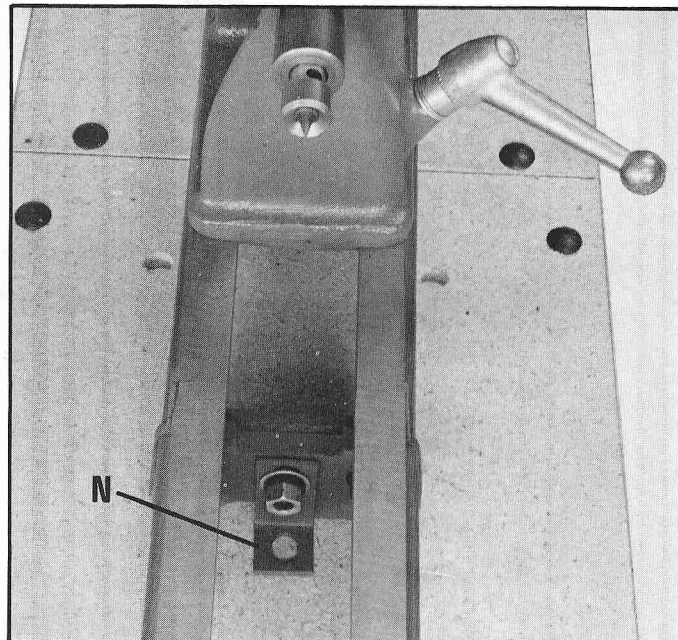

Fig. 33
8. The tailstock end of the lathe should be assembled to the accessory bed section in a similar manner. Support bracket (N) should also be assembled to the center bolt as shown in Fig. 33. The necessary hardware is supplied as follows:
10. After the lathe has been mounted to the stand, adjust the bracket (N) Fig. 33, so that it rests on the top shelf of the stand.